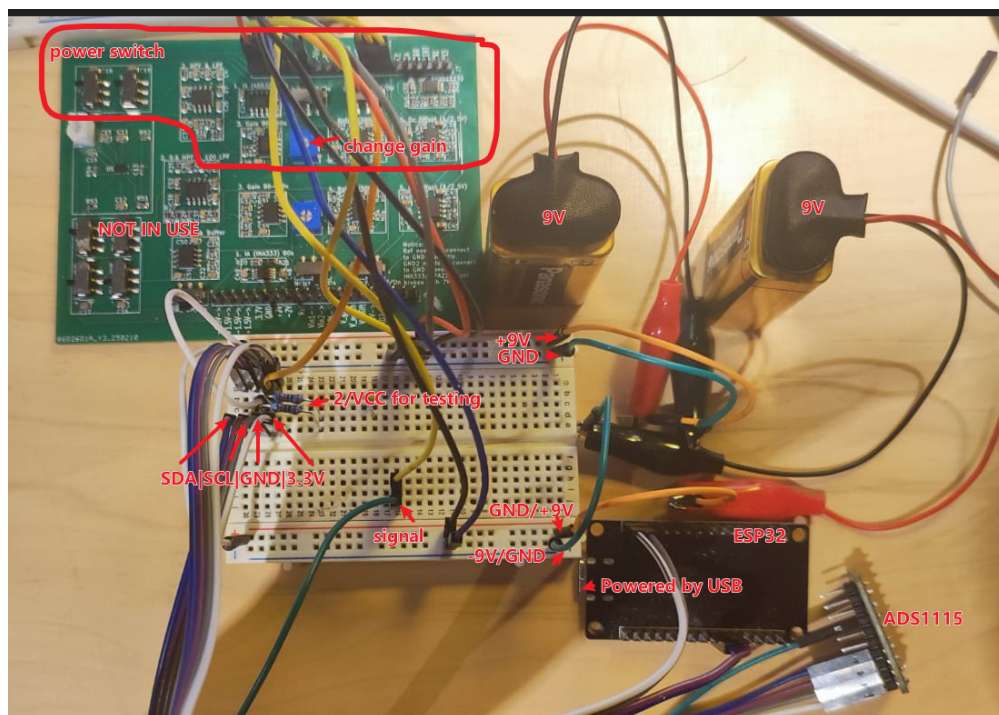

Figure 1: Default setup configure for the SCD. The power are two 9V battery.
As shown in Figure 1, the SCD is powered by two 9V batteries. The output signal (" V_{shift} ") connects to the ADS1115 peripheral, with SDA and SCL lines connected to an ESP32 development board.
3. Turn on the device. For SCD, connect two 9V batteries as in Figure 1. Switch on the toggles labeled "+9V" and "-9V" (top left corner). The toggles labeled "notch" and "dc" should remain OFF (they are mislabeled and actually mean ON). Connect signal electrode, reference electrode and GND electrode to Vin1, Vin2 and GND.